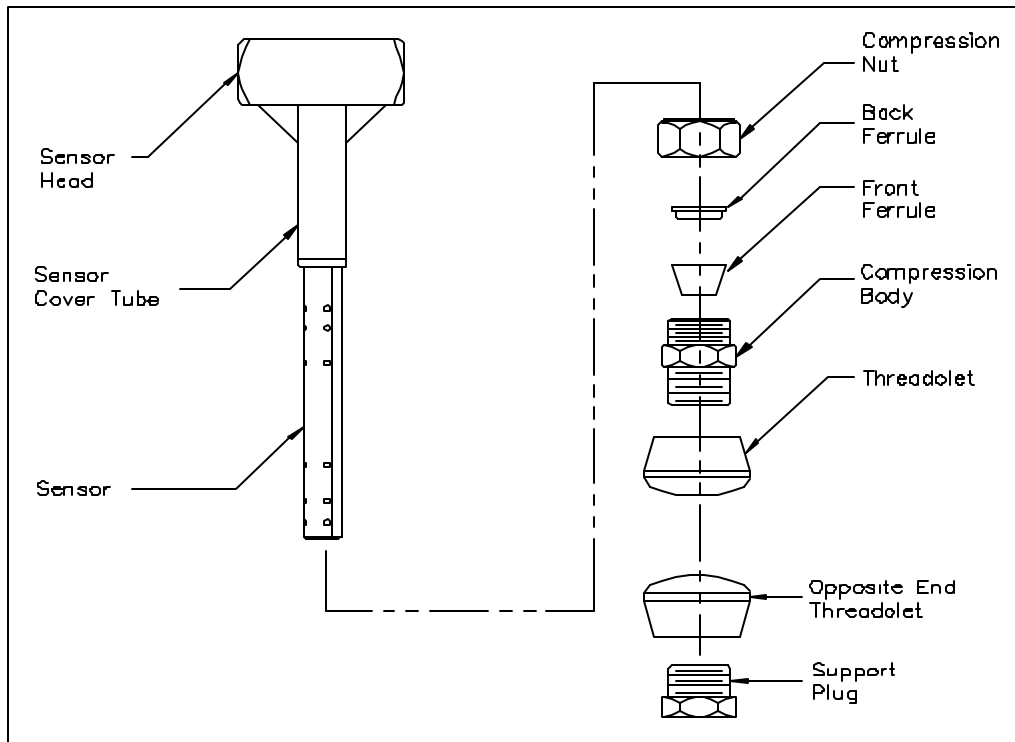

Figure 2. Verabar Model V110
- Slide the compression nut, back ferrule, then front ferrule, onto the sensor cover tube. **The back ferrule and front ferrule must be in the proper sequence and orientation as shown in Figure 2.** The back ferrule must be next to the